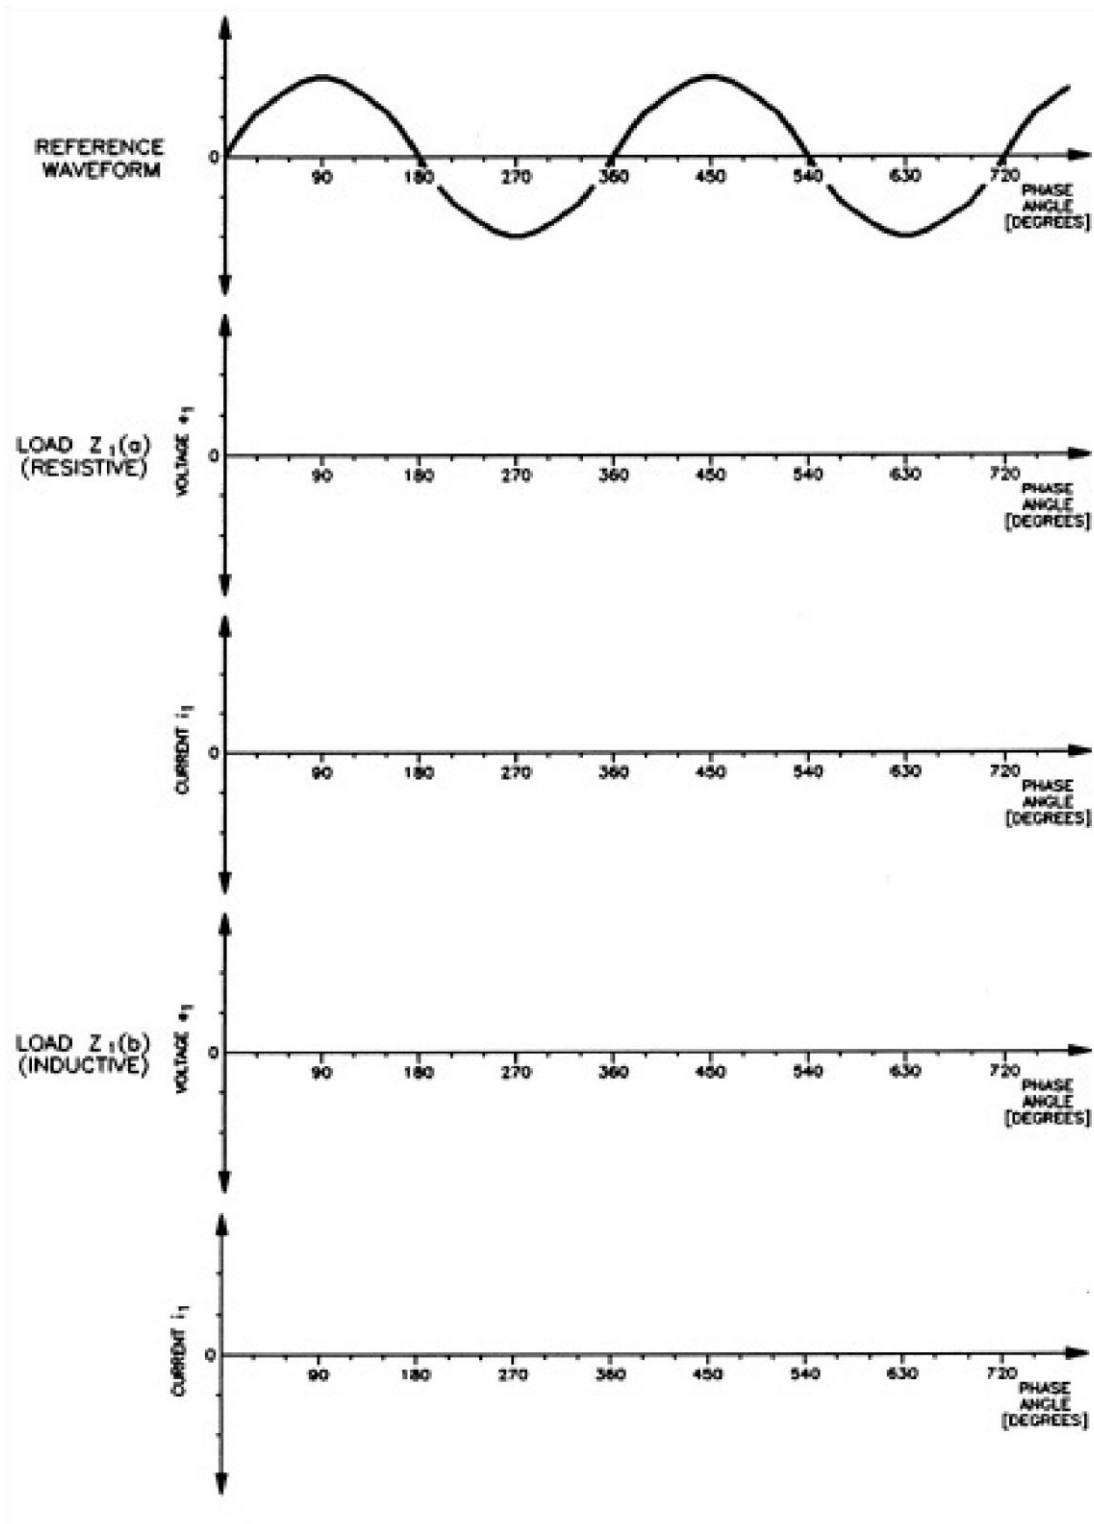

Figure 11. Voltage and current waveforms for half-wave rectifiers.
5.2.4. On the power supply, make sure that the voltage control knob is set to the 0 position, then set the main power switch to I (ON). Set the voltage control knob so that the voltage indicated by the power supply voltmeter is equal to 90% of the nominal line-to-neutral voltage. Sketch the voltage and current waveforms displayed on the oscilloscope in Figure 11. A sine wave is provided in this figure as a reference. You may find it helpful to change the time base of the oscilloscope. For example, you could adjust the time base so that one complete cycle of the waveform occupies 6 horizontal divisions. Each horizontal division would then represent 60°. Record the ripple frequency (frequency of the rectified waveform). Ripple frequency: 50 Hz
5.2.7. Change the load in the circuit to the inductive load Z_L (b) i.e.  with $R = 220\ \Omega$ and $L = 0.8\text{ H}$. Repeat the procedure steps necessary to complete the Table 1 and Figure 11.